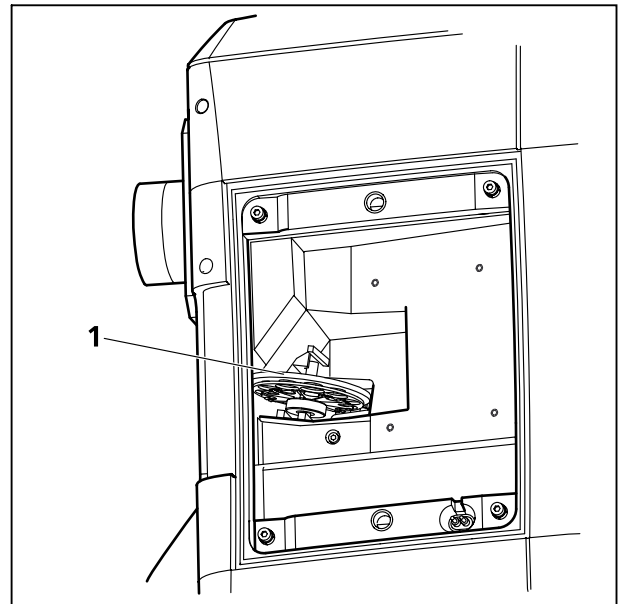

Fig. 1-30 LSM 710 filter wheel
- Turn the filter wheel (Fig. 1-30/1) until the free position points upwards. Do not touch the filters!